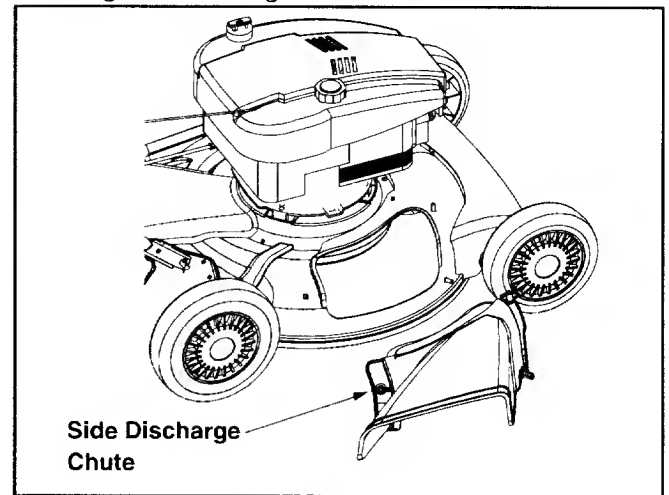

Figure 10
- Attach side discharge chute to unit and secure with wing nuts. See Figure 10.